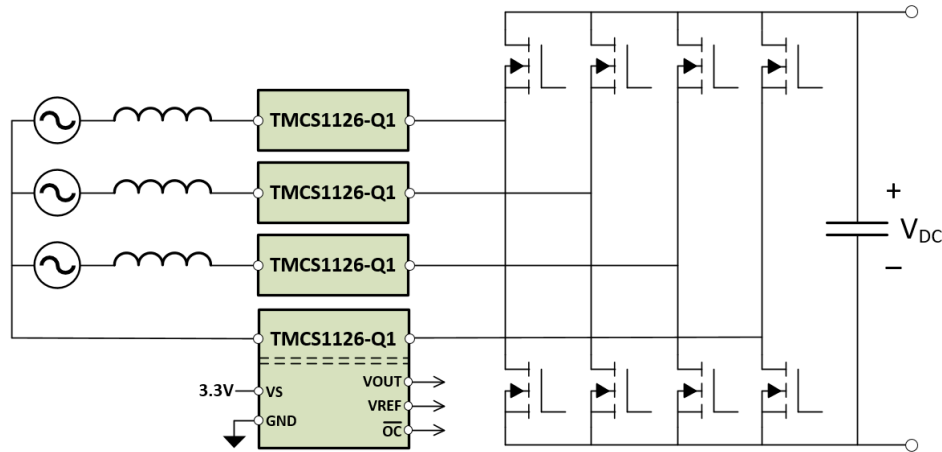

図 9-2. AC to DC Converter Current Sensing
In many applications, power must be converted from AC sources for use in DC circuitry. Some type of controlled power factor correction (PFC) stage is usually needed to improve power transfer efficiency. Faster and faster power switches are being used in modern PFC stages to reduce overall size and to improve power transfer efficiency. Often, the PFC stage of AC to DC converters is connected directly to AC power grids. A primary challenge to sensing in PFC stages is that the current sensor is subjected to large voltage spikes coming from the high-voltage (HV) power grid along with large transients coming from high speed power switches during charge transfer. Inherent isolation in the TMCS1126-Q1 construction helps overcome these challenges by providing high levels of isolation between the HV current sensing nodes and low-voltage control circuitry, with high common-mode transient immunity (CMTI). 図 9-2 shows the use of the TMCS1126-Q1 measuring phase currents in a common AC to DC converter stage.